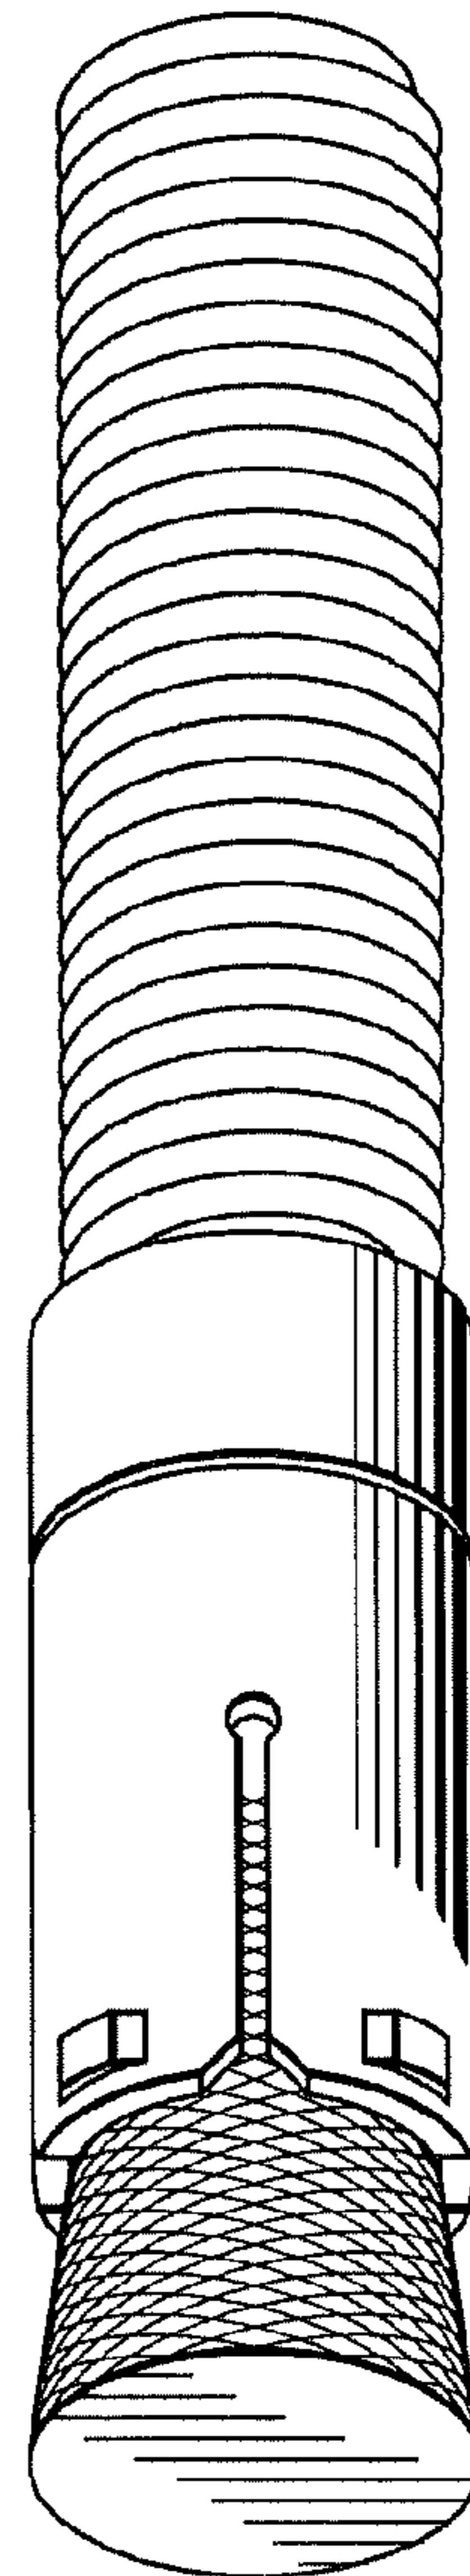

Fig. 4
- FIG. 4 is a bottom perspective view of the stud having a diamond-knurled wedge;